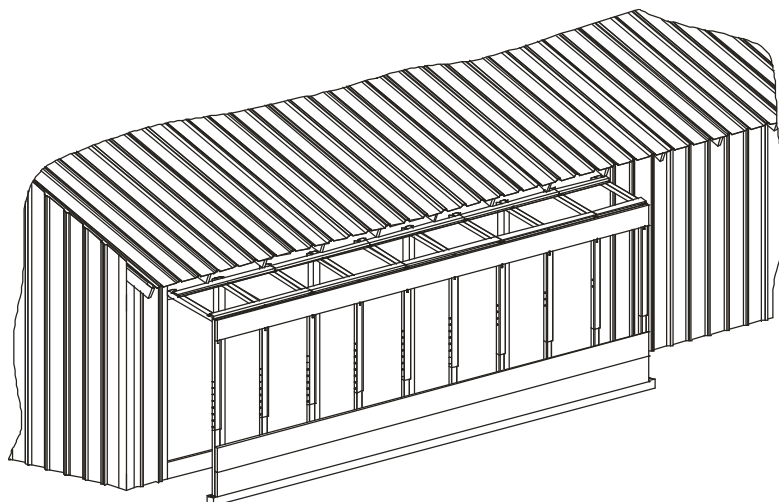

Figure 7
8. Install the stringers according to the installation instructions provided with your Kool-Cel® system. See Figure 7.